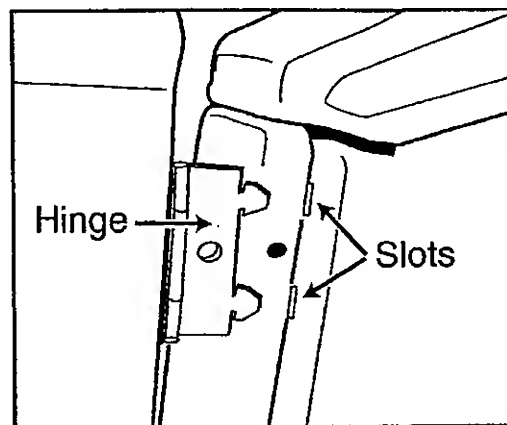

Figure 5-1
2. Grasp the door with both hands and lift the hinge area slightly. Draw the door assembly away from the machine. This will disengage the hinges from the slots in the front shroud (*Figure 5-1*). If the hinges bind, press in on the plastic shroud near the hinge toward the cabinet.